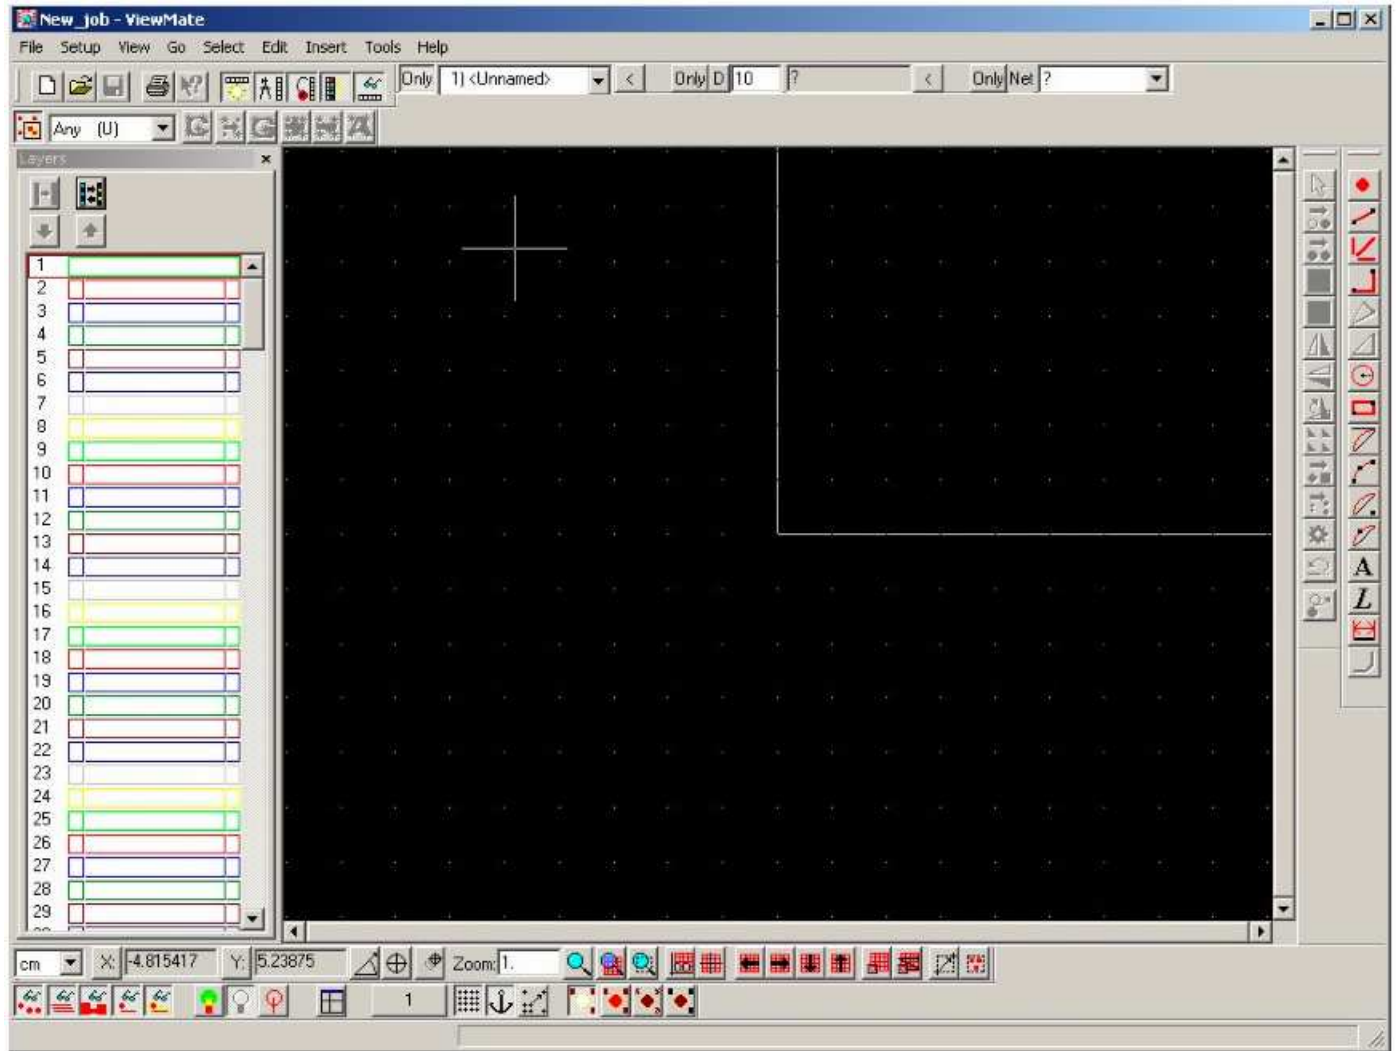

Figure 1: Viewmate New Window
- Select *File->New*. See *Figure 1*